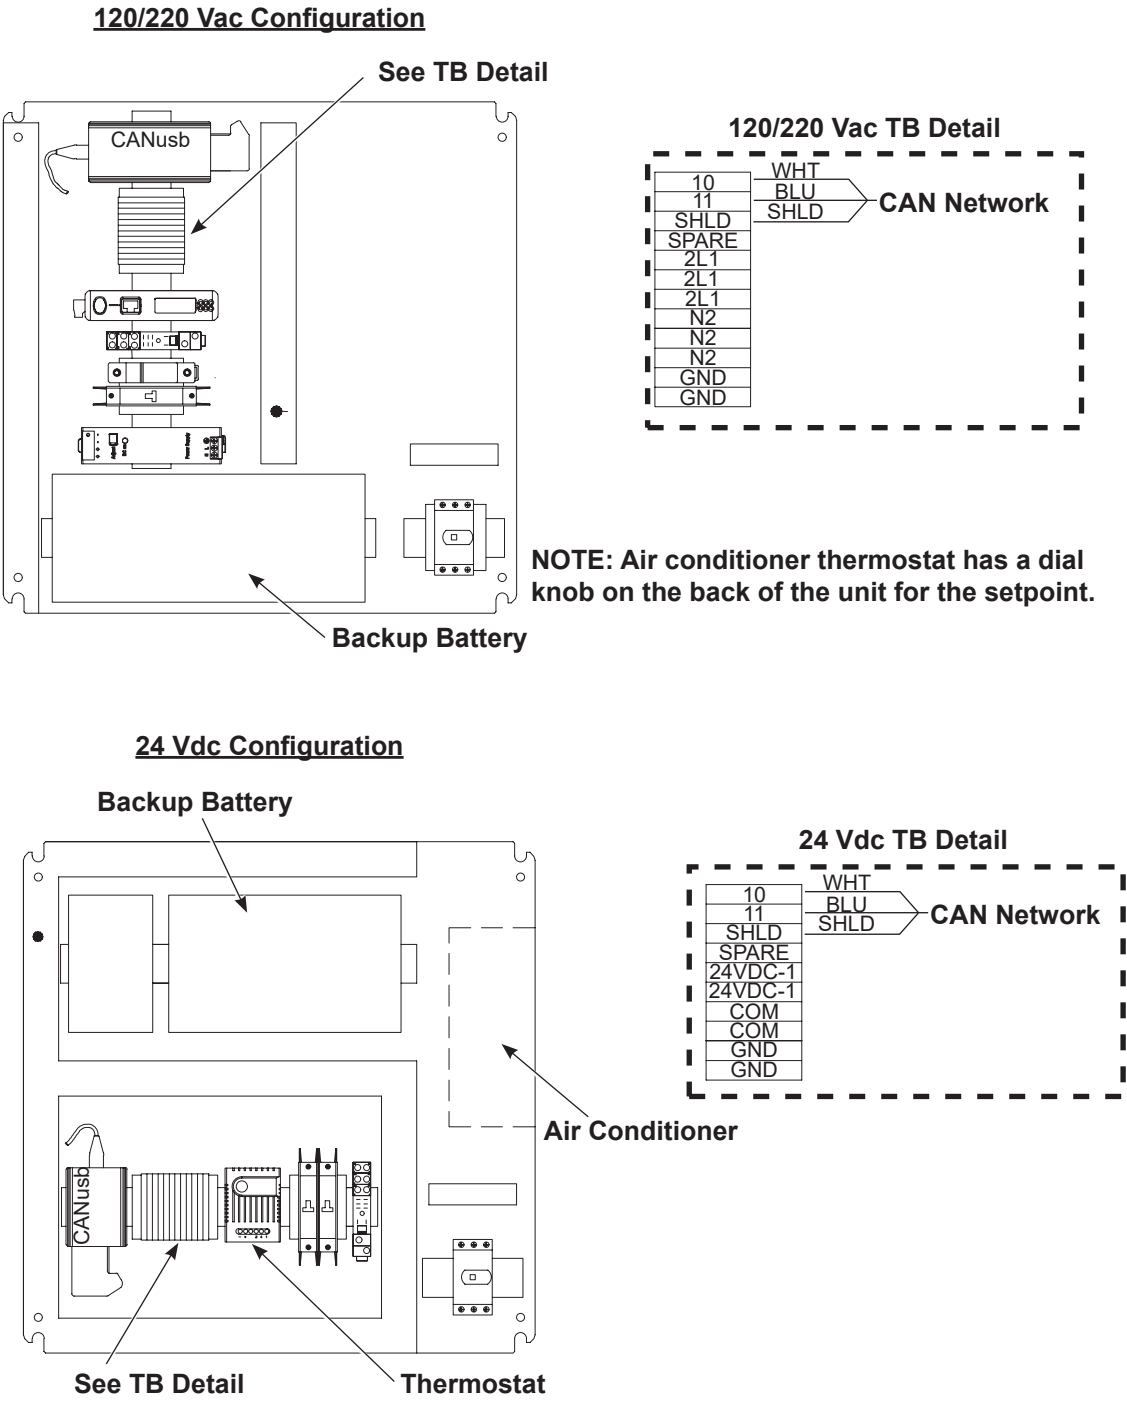

Figure 5 Inside Pedestal Enclosure
See Figure 5 for location and wiring for the CAN network.
See Figure 5 for thermostat locations. The thermostat is factory set at 95 - 100 °F.
2. See Figure 5 for backup battery location inside pedestal enclosure. Remove the backup battery unit from the din rail and move to a clean flat surface area.